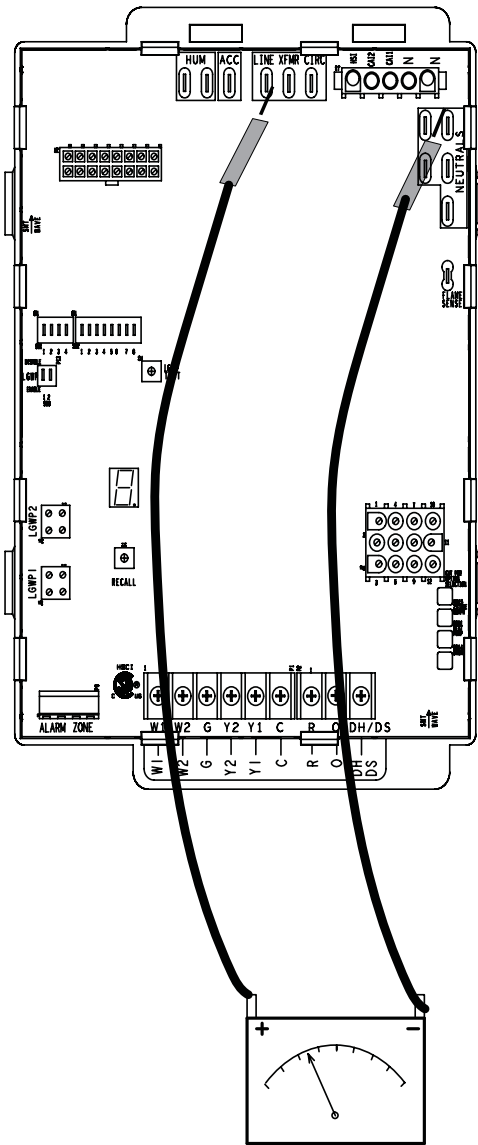

Figure 51.
1. Measure the AC voltage between Line Neutral (spade terminals) and “C” terminal (low voltage terminal block) on the integrated control. See **Figure 51**. A wide variation in the voltage between Line Neutral and “C” as a function of load indicates a poor or partial ground. Compare the readings to **Table 20**. If the readings exceed the maximum shown in **Table 20**, make repairs before operating the furnace.
2. In addition, measure the AC voltage from Line Hot to Line Neutral (spade terminals) on the integrated control. See **Figure 51**. This voltage should be in the range of 97 to 132 VAC.